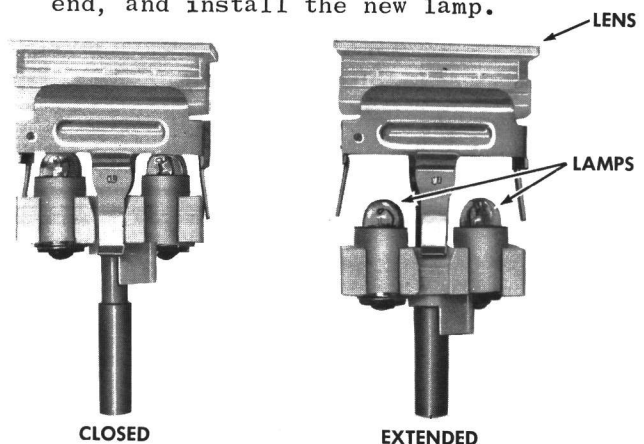

Figure 2 - Switch Indicator Assembly
3. Reinstall the indicator assembly. The assembly must be in the extended configuration shown in Figure 2 before it can be reinstalled in the panel.